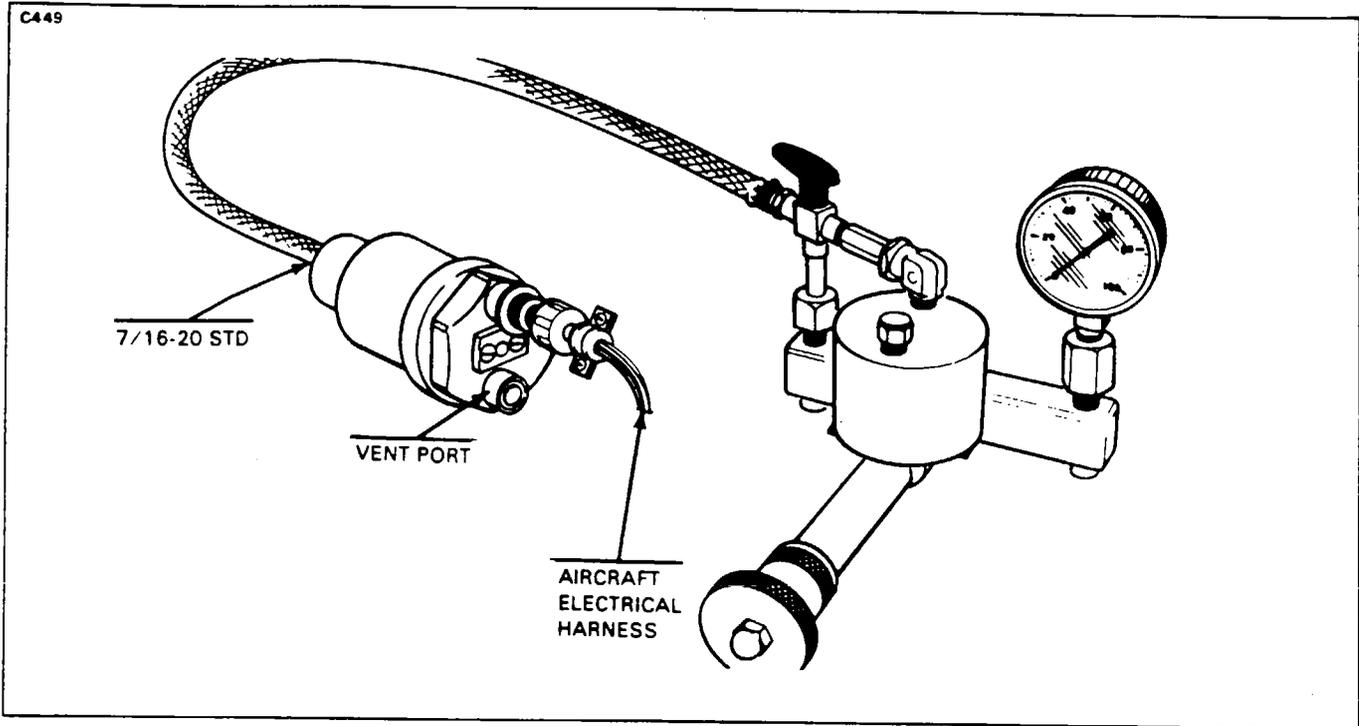

Figure 77-1. Torque System Calibration (Bendix)
**CALIBRATION.** (Refer to Figure 77-1.)